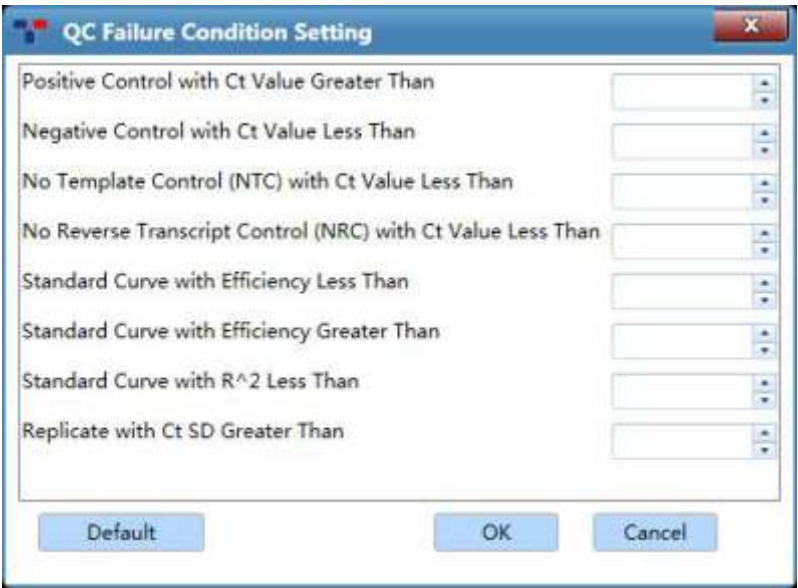

Figure D-6.7 Sample Setting interface - QC Failure Condition Setting
- **QC Failure Condition Setting:** after completing the sample well setting, please click  icon and the QC failure condition setting dialog box will pop up automatically, as shown in figure D-6.7.